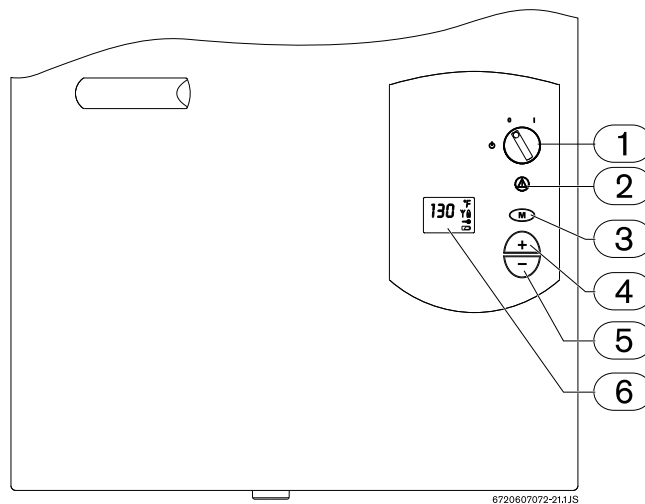

Fig. 19
- ▶ **2.** The gas valve must be shut off by putting the ON/OFF switch to the OFF position (turn to the left position). Wait five (5) minutes to clear out any gas. If you smell gas, STOP! Follow "B" in the safety information above. If you do not smell gas, go to the next step.
NOTE: on a first time initial installation or after gas line work has been done, air in the gas line will cause ignition delay when the hot water is turned on. This will result in an error (EA or EC) on the units display screen. This is normal. When this occurs, leave the hot water running and wait 3-5 seconds, then press reset button to reset the unit (Fig. 19, pos. 2). Wait for (EA or EC) to disappear. The heater will begin to attempt ignition again, if the (EA or EC) reappears then repeat this same process until all air has been bled from the gas line.